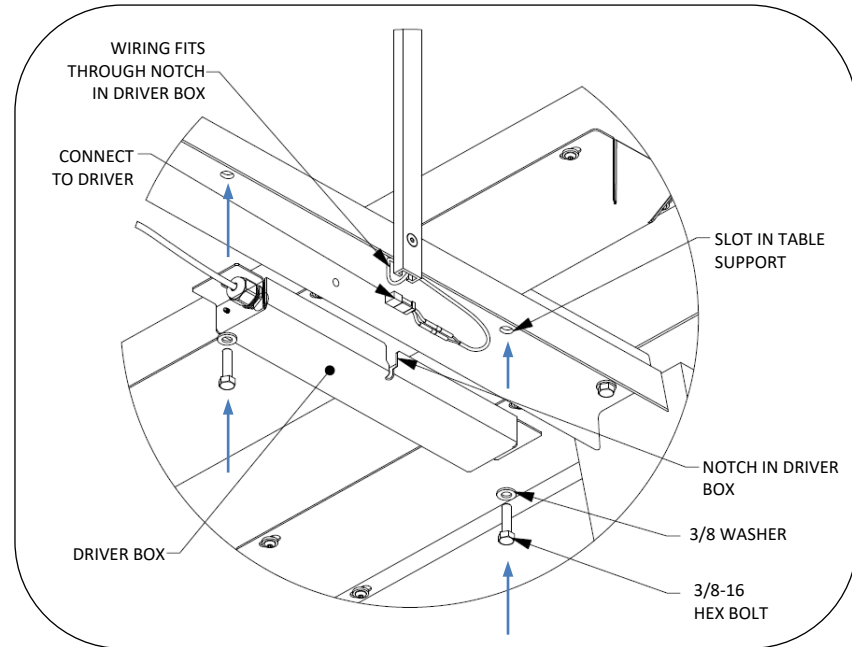

Fig. 3 – attach driver box to support
4. Attach box using existing bolts and washers as shown in Fig. 3. Ensure wiring is running through slot on side of box without being pinched.